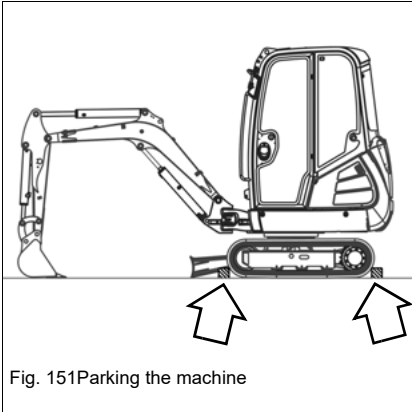

Fig. 151 Parking the machine
10. Secure the tracks accordingly (for example with chocks, blocks) as shown in Fig. 151.